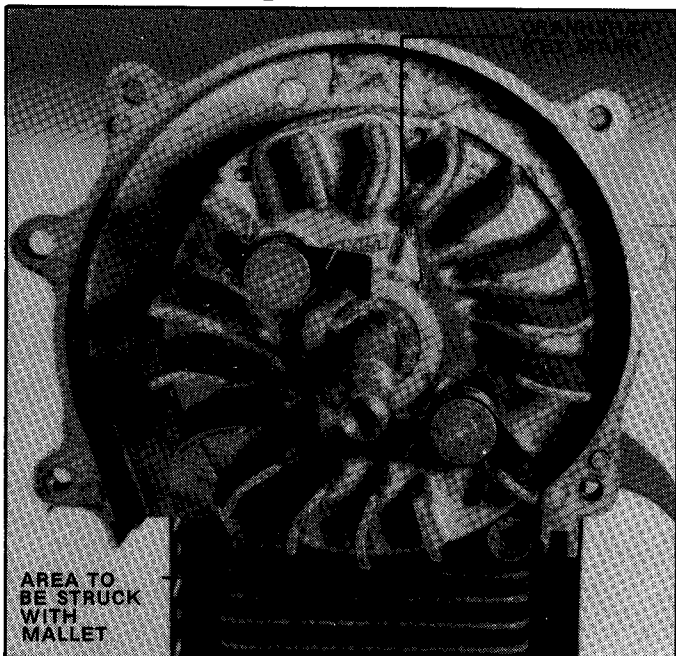

FIGURE 9.2
9.2 On top of the flywheel over the area of the magnets is an elongated mark that indicates the location of the crank shaft key. Rotate the flywheel until the mark is opposite the ignition module mounting area. This positions the flywheel counter weight at the module area. Using a soft faced mallet sharply tap the side of the counter weight at a place directly across from the key to loosen the flywheel from the crank shaft. See Figure 9.2.